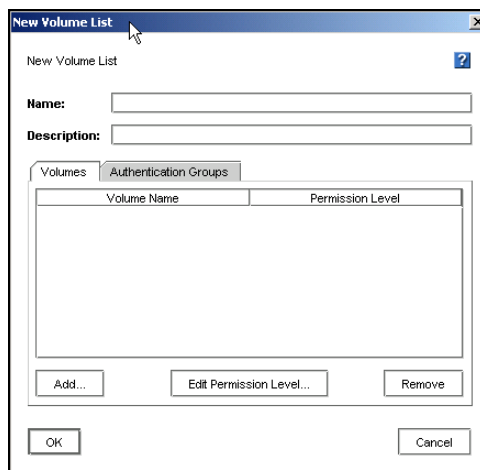

Figure 182. Creating a New Volume List
The New Volume List window opens, shown in Figure 182.
1. Select the Volumes tab, shown in Figure 182.